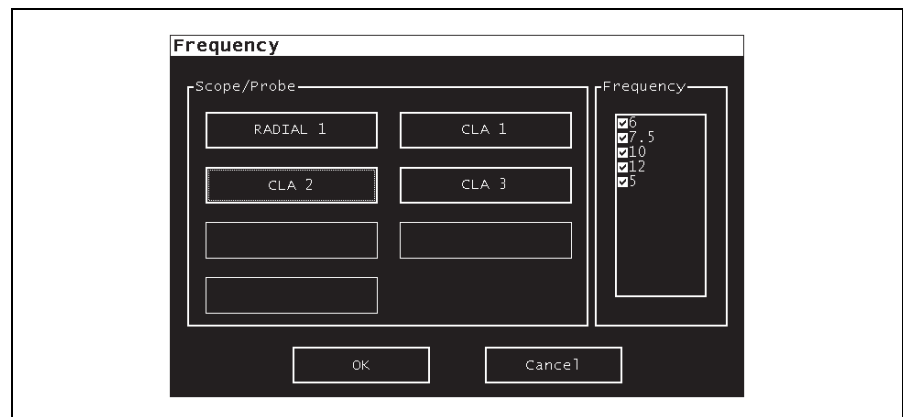

Figure 3.21
3. When setting the frequency, choose the setting value CLA2, and then the frequencies available with the keyboard (see Figure 3.21). Refer to EU-ME1's instruction manual for instructions on how to set the frequency.